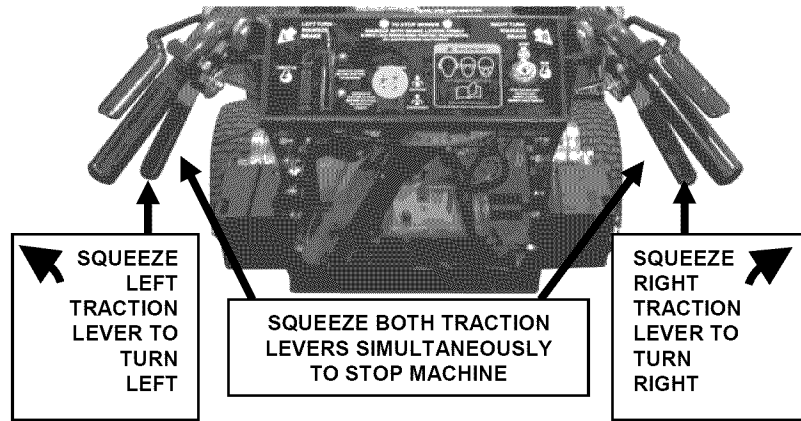

FIGURE 3.18
1. **To Turn Left**, gradually squeeze left Traction Lever against handle grip. See Figure 3.18. **NOTE:** The harder the lever is squeezed, the sharper the turn will be.
2. **To Turn Right**, gradually squeeze right Traction Lever against handle grip. See Figure 3.18. **NOTE:** The harder the lever is squeezed, the sharper the turn will be.
3. **To Stop Machine Motion**, squeeze both Traction Levers firmly against handle grips. See Figure 3.18. **NOTE:** The harder the levers are squeezed, the harder the stop will be.